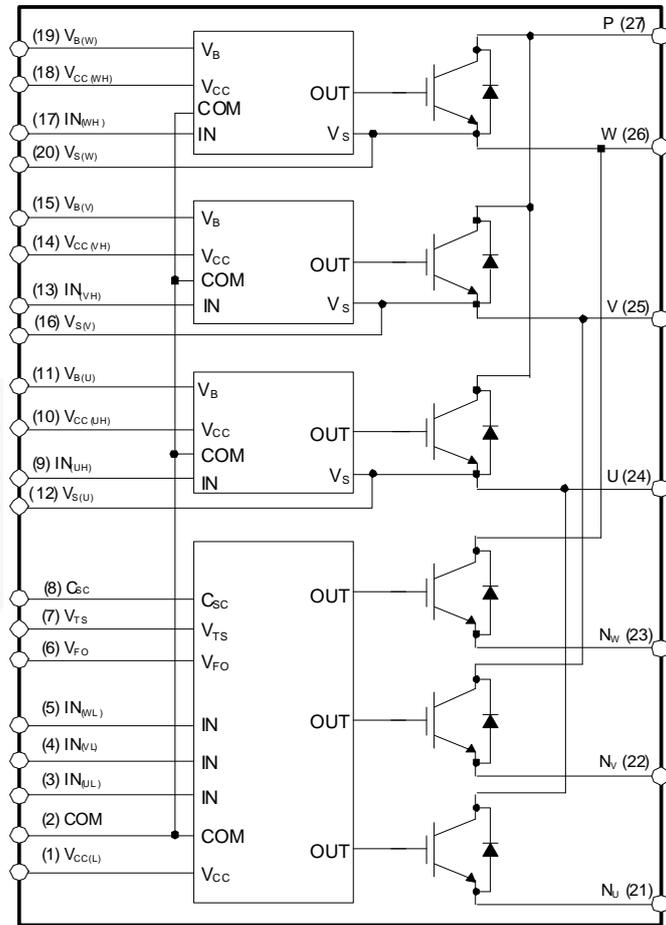

Figure 3. Internal Block Diagram
- 1200 V - 15 A IGBT inverter for three-phase DC / AC power conversion (Please refer to Figure 3)